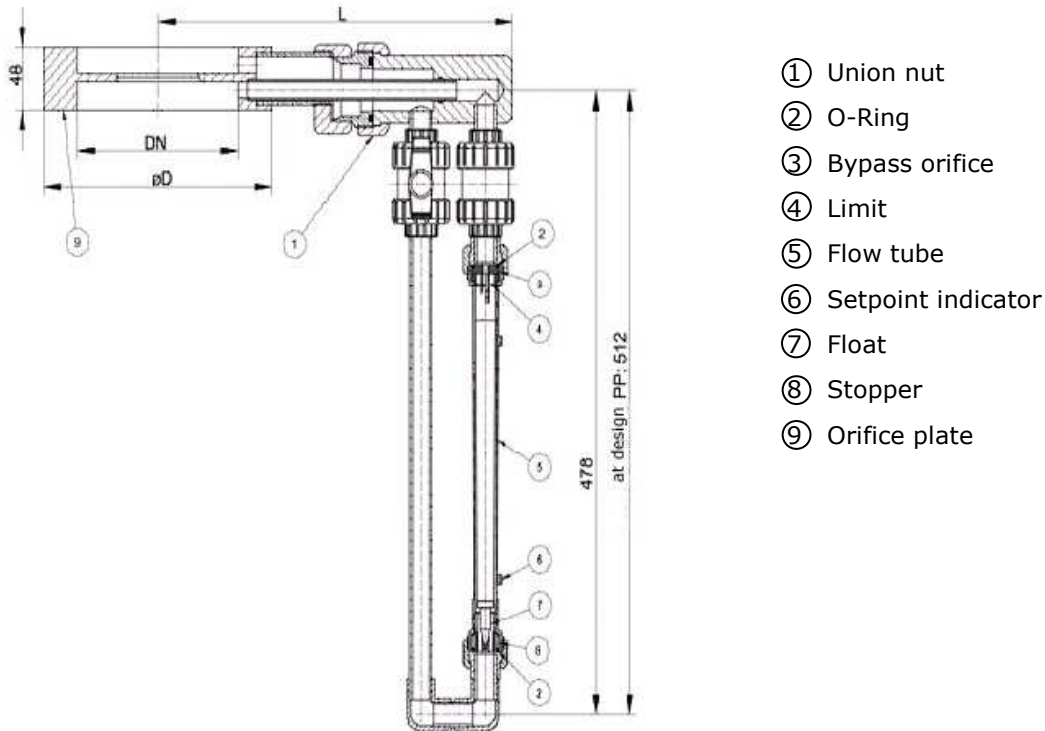

Fig. 4 FO N4, Dimensions in mm
Orifice plate ⑨ (s. Fig. 4)	PVC / PP (optional stainless steel mat.-No. 1.4571)
Flow tube ⑤ (s.fig 4)	Trogamid (up to 50 °C (122 °F)), Polysulfone (up to 60 °C (140 °F))
Float ⑦ (s.Fig. 4)	Stainless steel mat.-No. 1.4571, PVC
Limits ④ (s. Fig. 4)	Polysulfone
Gasket ② (s.Fig. 4)	Perbunan (NBR)
Bypass orifice plate ③ (s.Fig. 4)	Stainless steel mat.-No. 1.4571 (optional PVC)